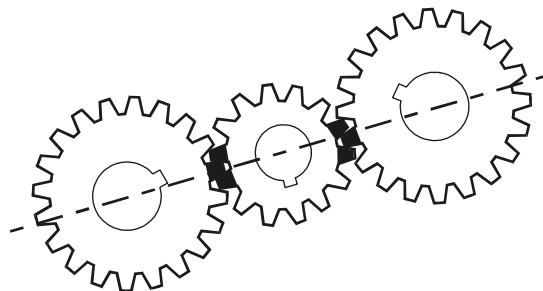

Figure 68 – Correct Gear Positions for Timing
- f. Repeat the procedure when installing the bearings on right countershaft, making use of the remaining set of two marked teeth on the main drive gear to time assembly (refer to Figure 68).